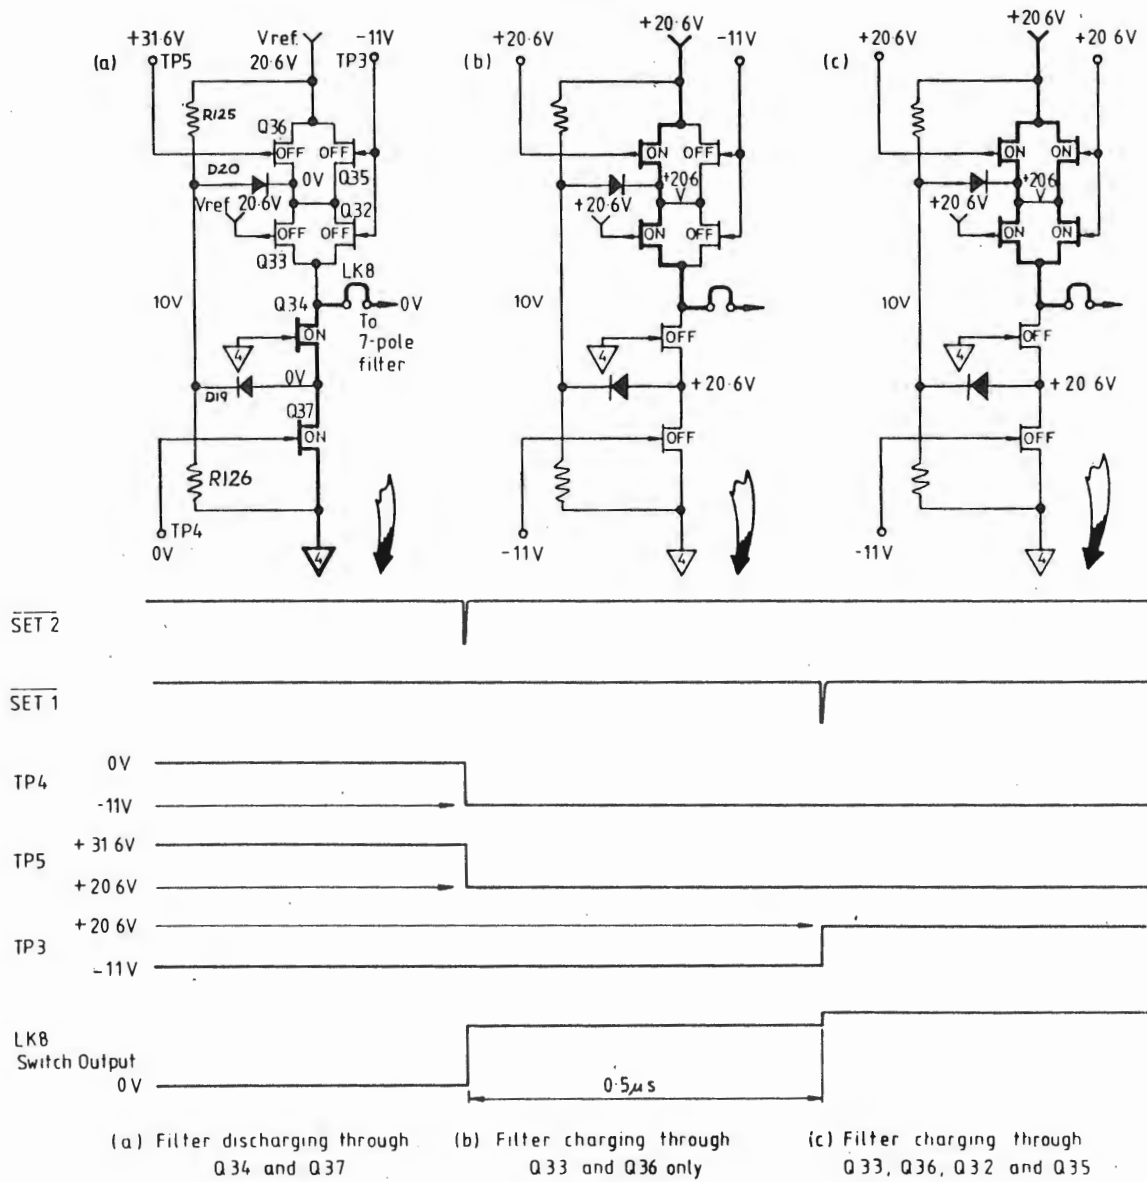

FIG. 6.27 ACTION OF MAIN AND GUARD SWITCHES (MSD)
5.8 MAIN and GUARD SWITCHES (Fig. 6.27)
refer to Fig. 6.27, in which only the Space to Mark (SET) state transfer a-b-c is shown.
(Fig. 6.27)
In Fig. 6.27(a) the switches are in "space" state:
Fig. 6.27(b) shows this intermediate state after $\overline{\text{SET}} 2$ and before $\overline{\text{SET}} 1$, and Fig. 6.27(c) illustrates the fully-conducting state after $\overline{\text{SET}} 1$. Note that for descriptive purposes, the second step on LKB waveform is heavily exaggerated, and is not readily viewed on an oscilloscope. The slightly longer charging time-constant during this half micro-second, due to the higher resistance of Q36/Q33, is not sufficient to disturb the linearity of the filter in excess of specification.